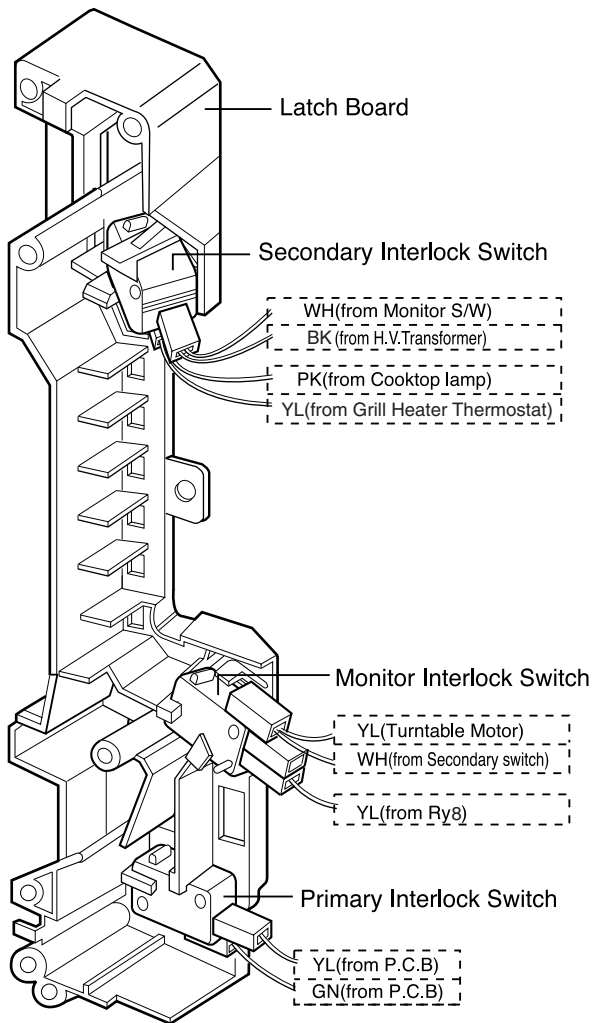

Figure 9
C. REMOVING THE DOOR INTERLOCK SWITCHES (Figures 9,10)
- (1) Disconnect the wire leads from the interlock switches.
- (2) Remove the two screws securing the Latch Board.
- (3) Make necessary replacements and check microwave energy leakage according to "ADJUSTMENT PROCEDURE" on page 7-12.